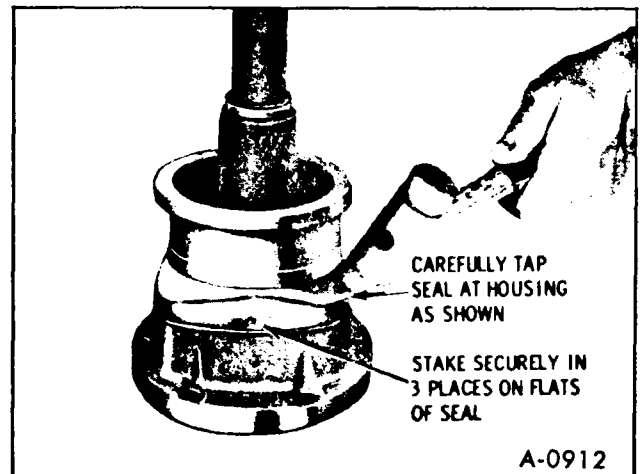

Figure 31-Installing Seal to Housing
15. With housing positioned as shown in Figure 31 tap seal retainer on three lobes alternately with plastic hammer as shown until firmly bottomed, then stake three places into staking groove.